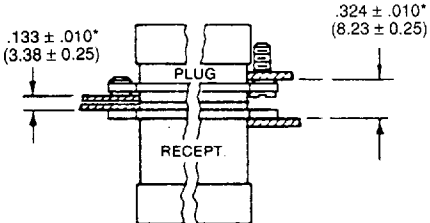
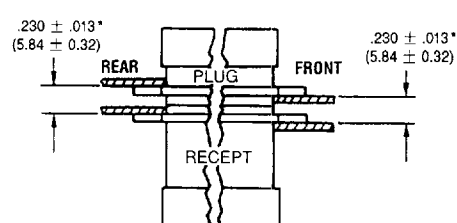

Figure 3
Figure 5
- 5/6. With plug assembly front mounted and receptacle assembly rear mounted, use hardware from Figures 5 and 6. If float mounting is desired, use Figure 3 or 4 for the float mounted connector.